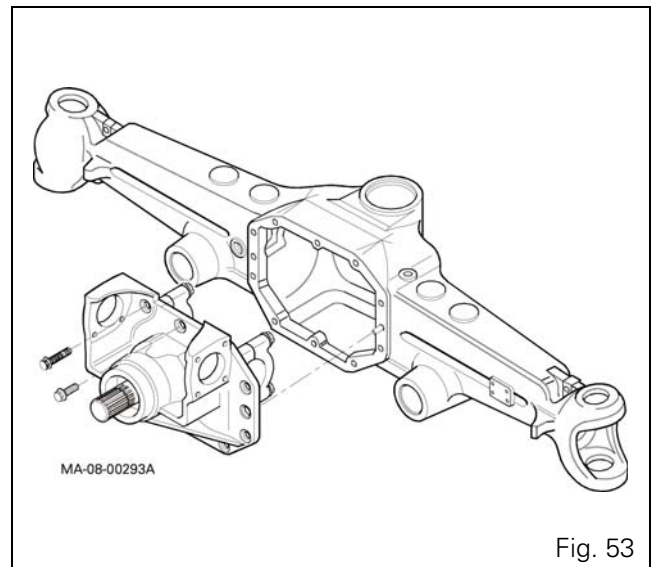

Fig. 53
- for suspended front axles: Fig. 53